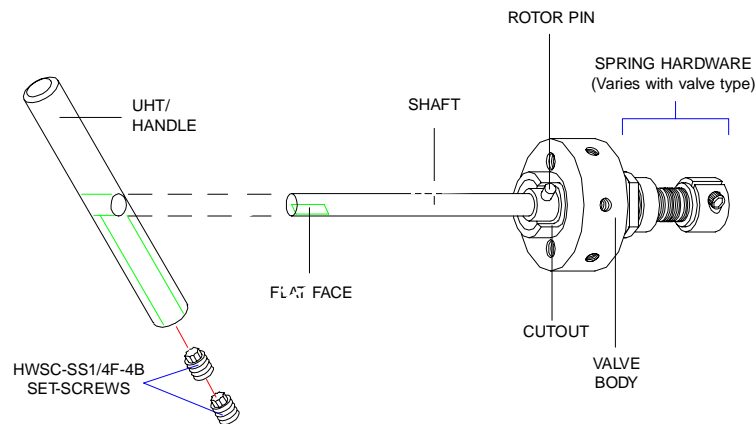

Figure 7: U Type valve with UTH handle
2. See **Figure 7**. Remove the handle by using a 1/8 hex driver to unscrew the *two* set screws within the handle.